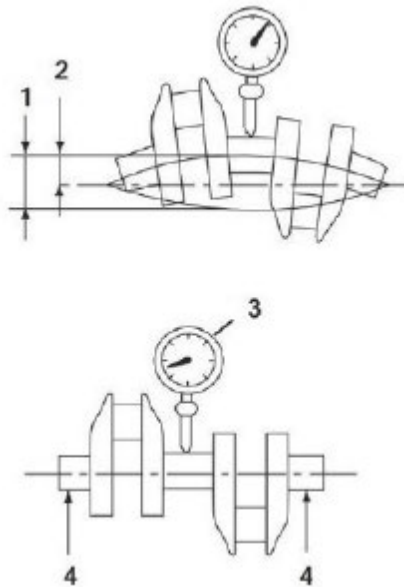

Figure 97.
1. Place the crankshaft end journals (Figure 97, Item 4) on V-blocks.
2. Place a dial indicator (Figure 97, Item 3) on a center main bearing surface.